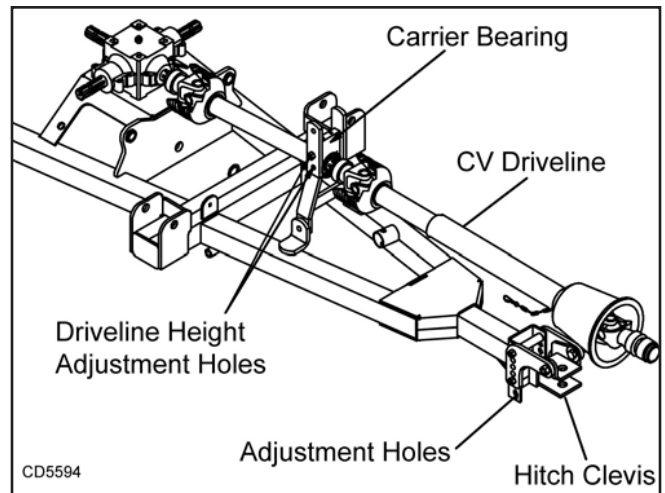

Figure 3. Level Trailer Frame
3. Level the trailer frame by adjusting the hitch. (See Figure 3.)